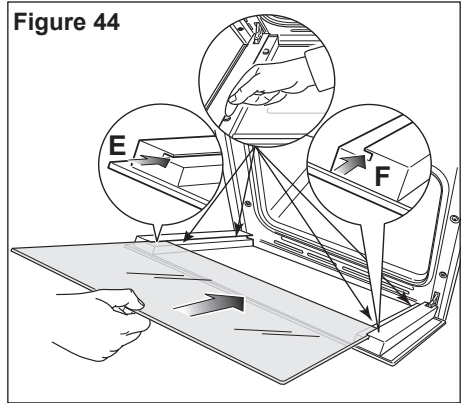

Figure 45
- Insert the pane in the left “E” and right “F” slide guides (fig. 44), and gently slide it to the retainers “H” (fig. 45).